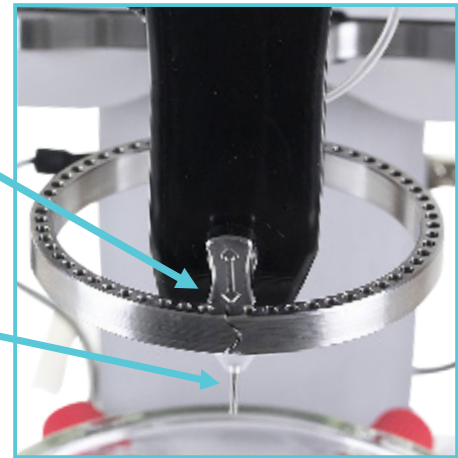

Fig.43.B.: Aortic stopcock open position.
1. Turn the stopcock to close the flow towards the aortic inlet and stop the flow into the aortic cannula. (fig.43.A. and 43.B.)